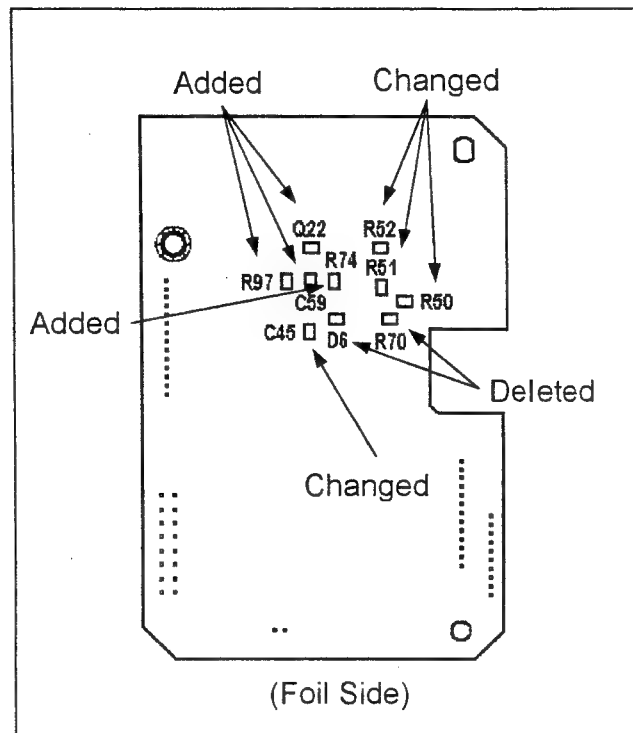

Fig. 5
- 2). Capacitor C9045 is changed from 50V/0.5pF to 50V/1pF on the foil side as shown in figure 5.
- 4). Resistor R9050 is changed from 1/16W, 0Ω to 1/10W, 1.5KΩ on the foil side as shown in figure 5.
- 5). Resistor R9051 is changed from 1/16W, 220KΩ to 1/10W, 120KΩ on the foil side as shown in figure 5.
- 6). Resistor R9052 is changed from 1/10W, 91KΩ to 1/10W, 100KΩ on the foil side as shown in figure 5.